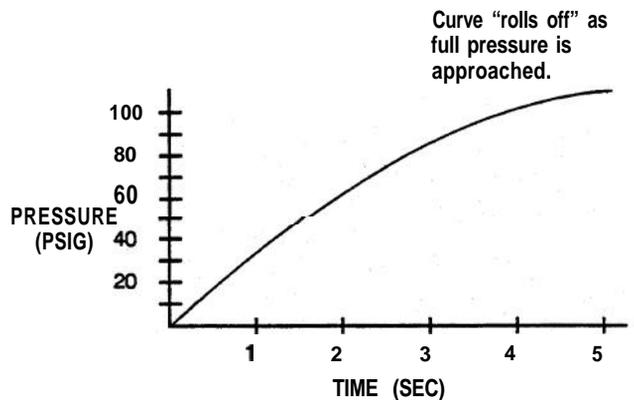

Fig. 12
3.2.5 Repeat the above procedure while adjusting the flow control valve (10) to supply a pressure rate of approximately 20 psig/sec (1.4 bar/sec). Due to the non-linearity of the pressure-time curve (See Figure 12), it will be easier to use a reduced value to set the flow control valve. For example, if the tank pressure is 100 psig (6.8 bar), to obtain a flow rate of 20 psig/sec (1.4 bar/sec), time the pressure build up to 80 psig (5.4 bar) and adjust the flow control valve to deliver this pressure in 4 seconds, which, for all practical purposes, would equate to the desired 20 psig/sec (1.4 bar/sec).